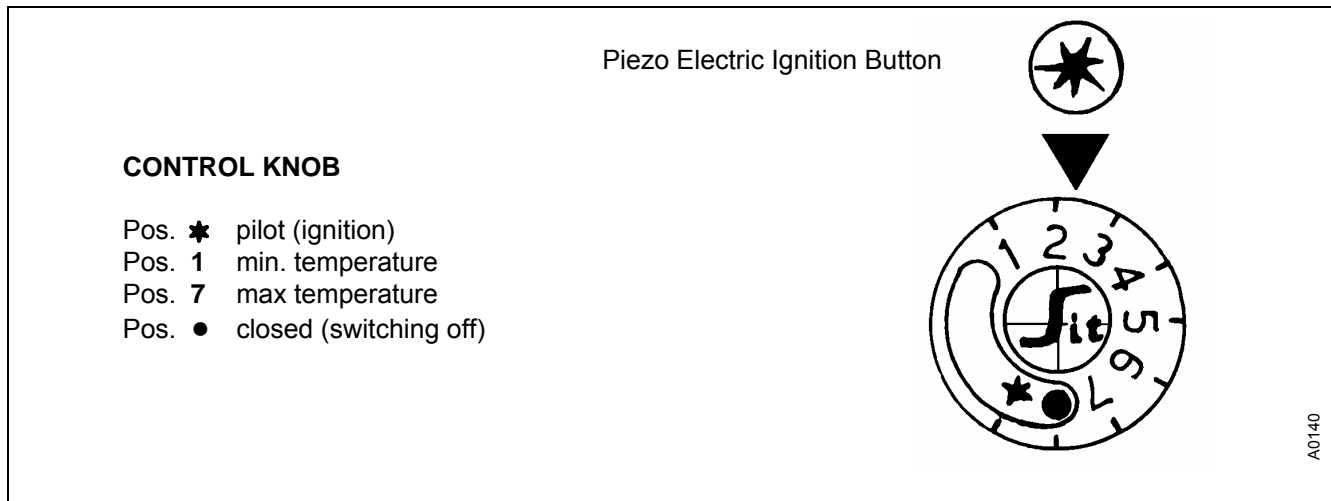

Figura 12
2. Turn the gas control knob to position  (see Figura 12).